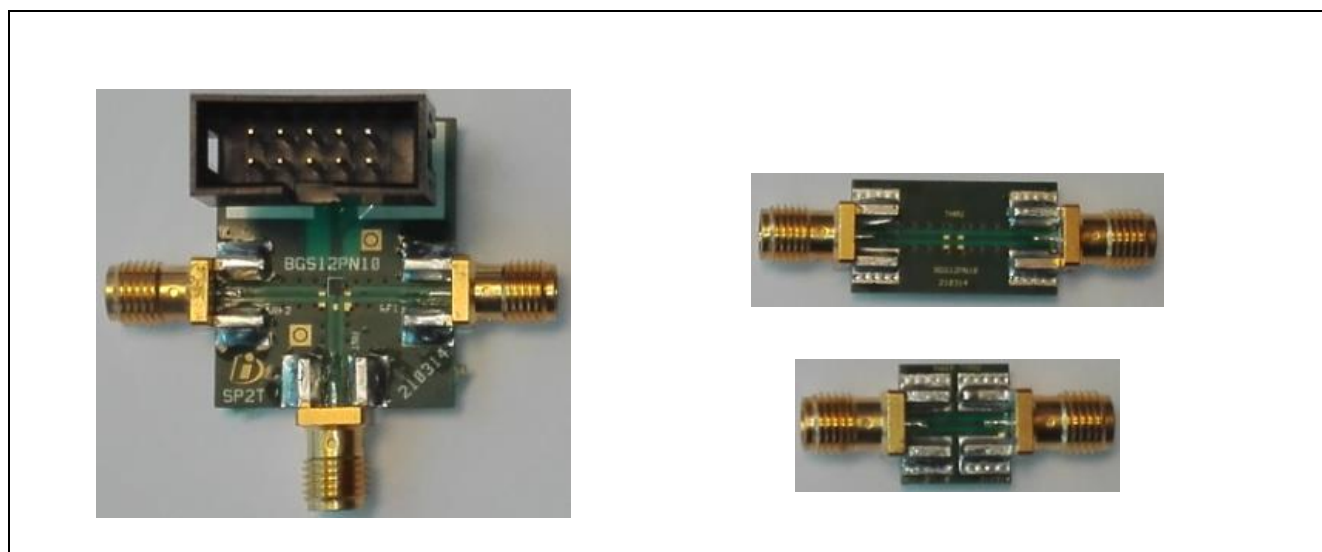

Figure 25 BGS12PN10 Application Board and deembedding kit
- Measure S21 of the half-thru structure (Figure 25, smallest board) with port extension enabled. The result is the de-embedding of S21 including only one SMA connector and the transmission line to the chip. Store this as S-parameter (s2p) file.
- Check insertion loss with the de-embedding through board (Figure 25 right upper board)